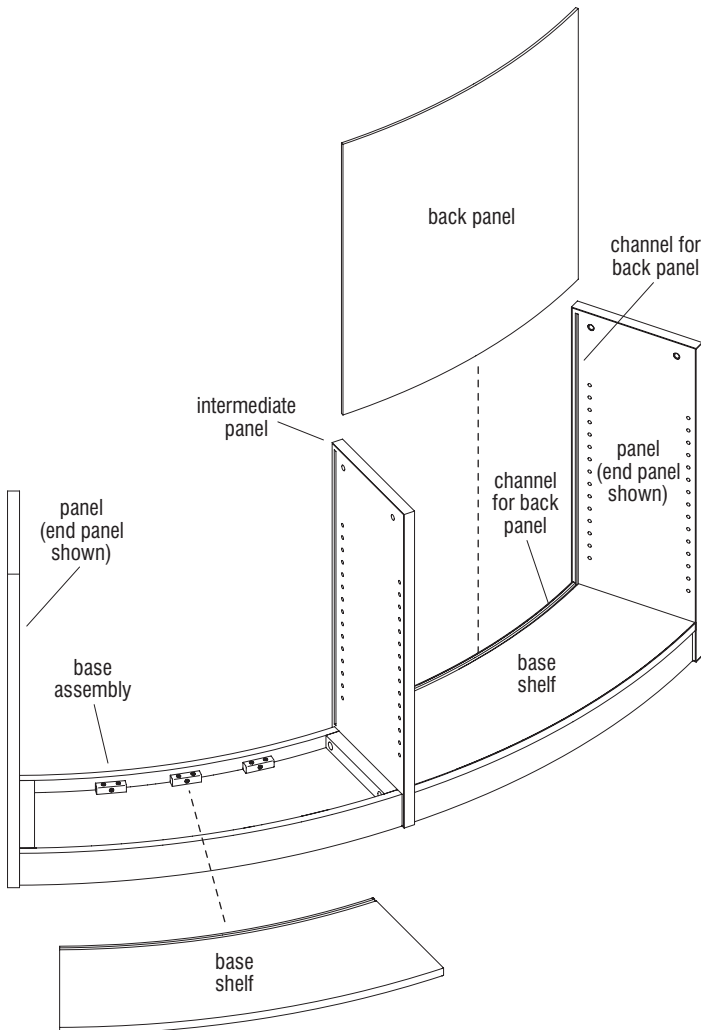

Figure 4
- Place the base shelf onto the base assembly, in between two end or between an end and intermediate panel. Adjust the base shelf so the channel for back panel on the base shelf aligns with the channels on the end or intermediate panels. Repeat this process to install any additional base shelves (Figure 4 & Detail D).
- Lift the back panel above the two end, or end and intermediate panels which the back panel will install between. Slightly spread the end or intermediate panels away from each other at the top, to allow enough space to lower the bottom of the back panel into the channels on each side of the end and intermediate panels. Slide the back panel evenly down the channel to avoid the panel binding on one, or both sides causing it to get jammed (Figure 4).